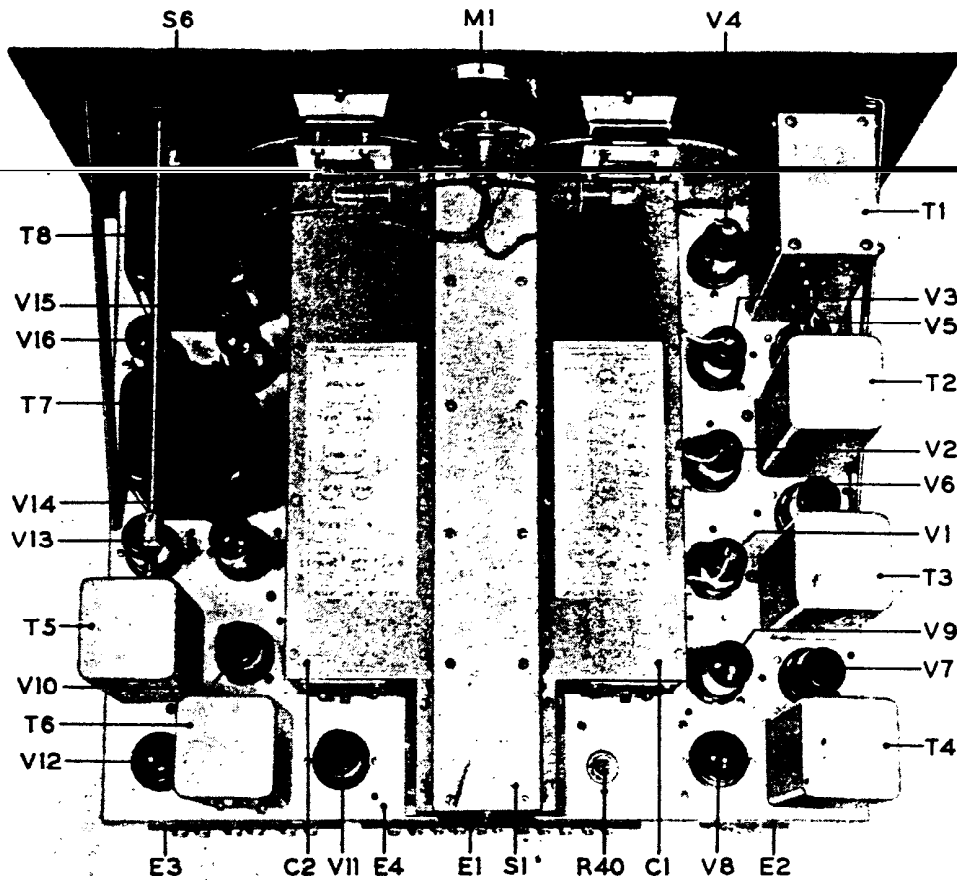

FIG. 7—Top chassis view showing arrangement of components.
The proper location of these tubes is shown in FIG. 7 and on the diagram attached to the top of the tuning unit. Make sure that tubes V1, V2, V3, V4, V5, V6, V7, V8, V9, V10, V11, V12, V13, V14, V15, V16 are properly connected to their grid caps.
h. *S-Meter Tuning:* The S-meter (M1, FIG. 2), a tuning guide, operates only when the Receiver is set for AVC. Its reading increases as the Receiver approaches resonance with the incoming signal. Exact resonance is shown by the greatest reading of the meter. BAND WIDTH control must be set at 3 for accurate tuning by means of the meter. A screwdriver adjustment (R40, FIG. 7) at the rear of the chassis varies the resistance in shunt with the meter. By means of this adjustment, an "S9" reading may be obtained on any input between approximately 10 and 10,000 microvolts. The normal factory adjustment is made on an input of 50 microvolts, and when so adjusted each "S" number represents a change in signal input of approximately 6 decibels, or a ratio of two-to-one.